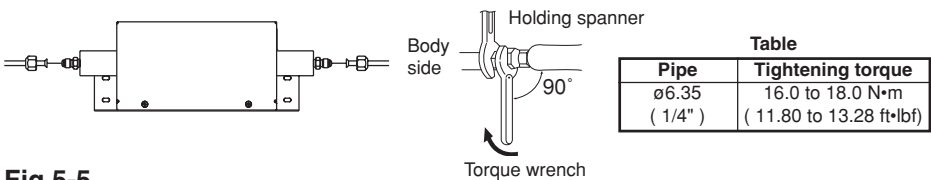
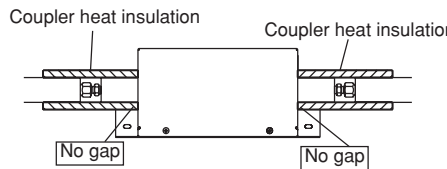

Fig 5-5.
Fig 5-6.
- (1) When the flare nut is tightened properly by your hand, hold the body side coupling with a separate spanner, then tighten with a torque wrench. (Fig 5-5.)
- (2) Perform a sealing test.
- (3) Insulate by the coupler heat insulation around the pipe. (Fig 5-6.)